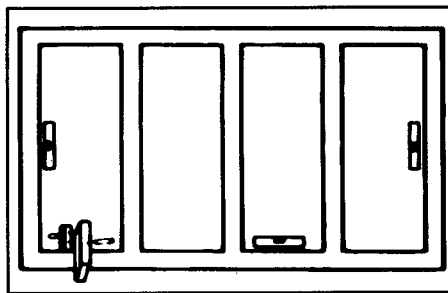

FIGURE 3
4. Check vertical and horizontal alignment with a level (**Figure 3**).